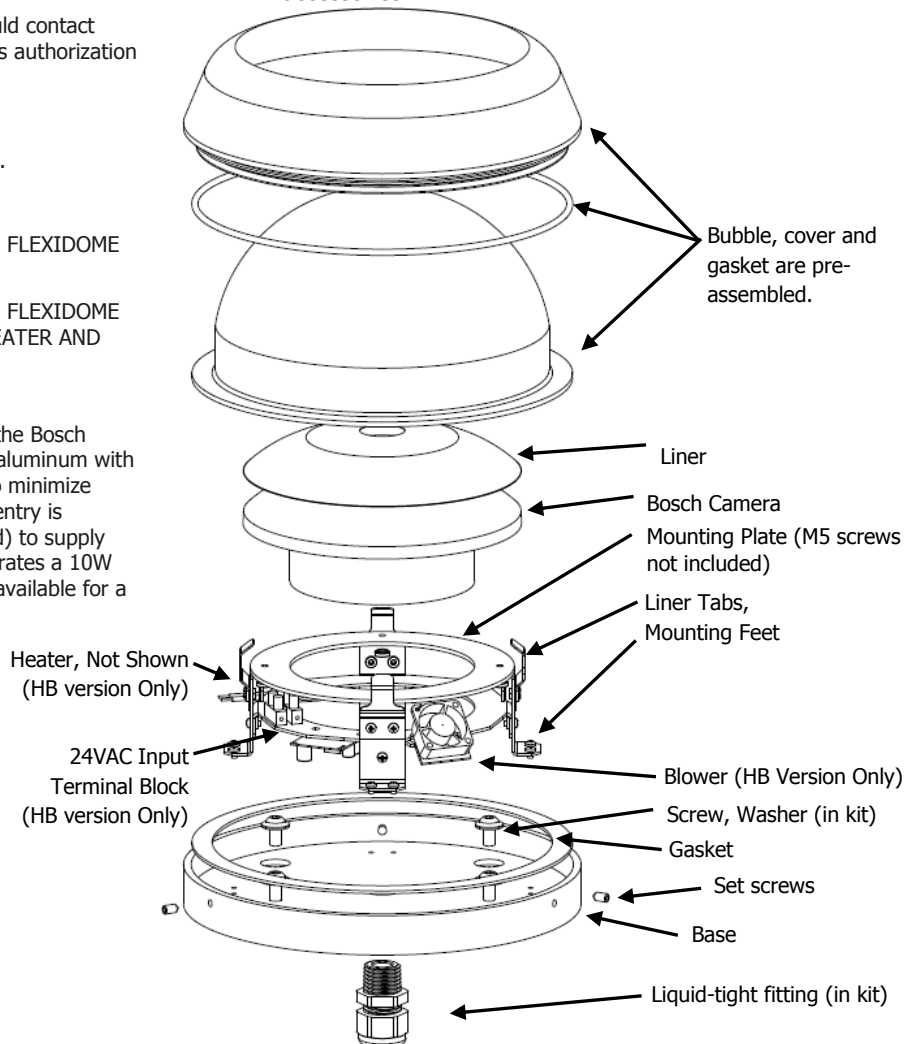

Figure 1 - BDH-7500HB Exploded View
1. Remove unit from packaging. Remove dome cover by loosening three (3) set screws in side of housing.
2. Remove liner and liner tabs by removing eight (8) Phillips head screws from mounting feet (see Figure 1).